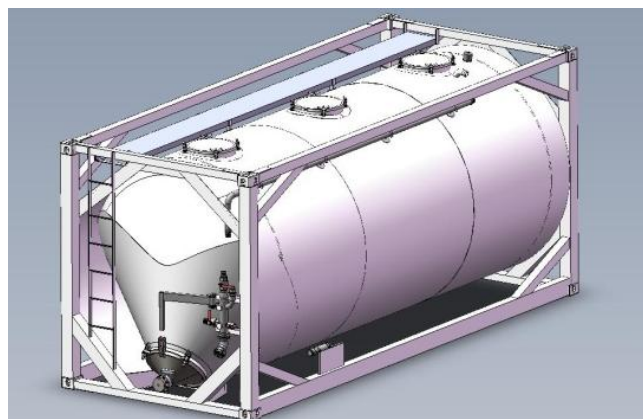

Figure 1: Pressurized container storing Urea and SBC
- Urea and SBC are brought inside the plant in pressurized containers as shown in Figure1 below.